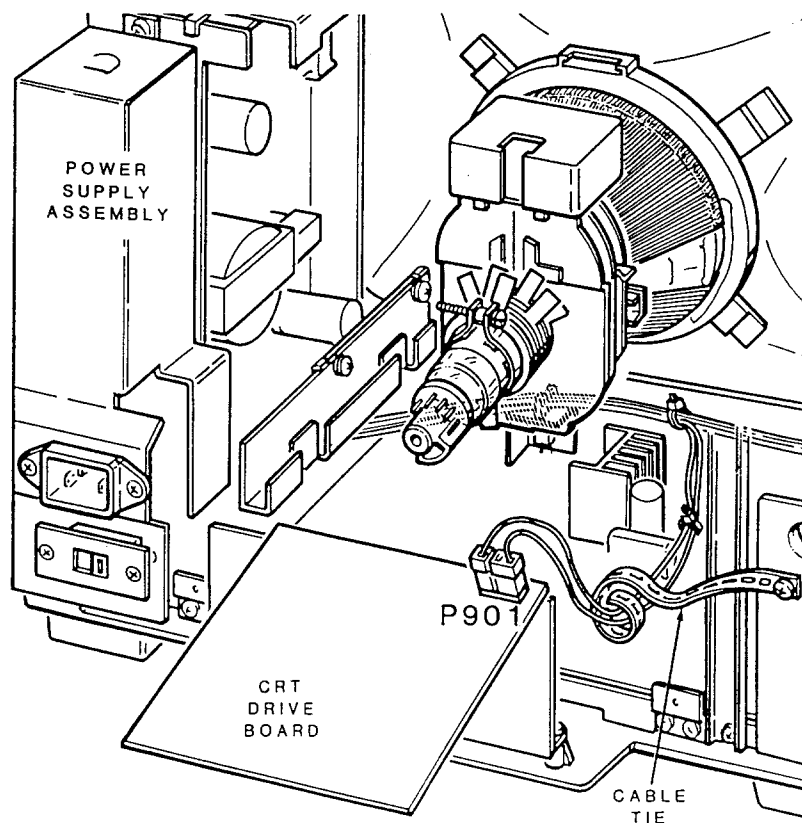

Figure 3-18. CRT Drive Board Cable P901
5. Refer to Figure 3-18 and remove the cable ties that secure the power supply assembly cable P901 (3-pin, 2-wire) to the other cabling.